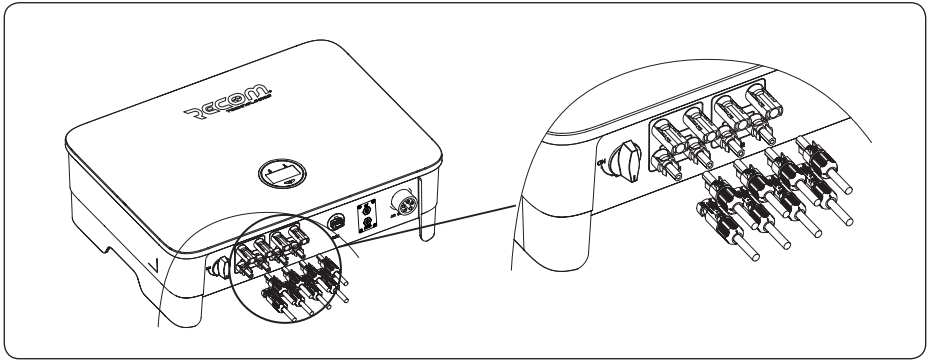

Figure 4-12
7) Insert the positive and negative connectors into the inverter DC input terminals respectively, and a "click" sound represents the assembly in place, as shown in Figure 4-12: